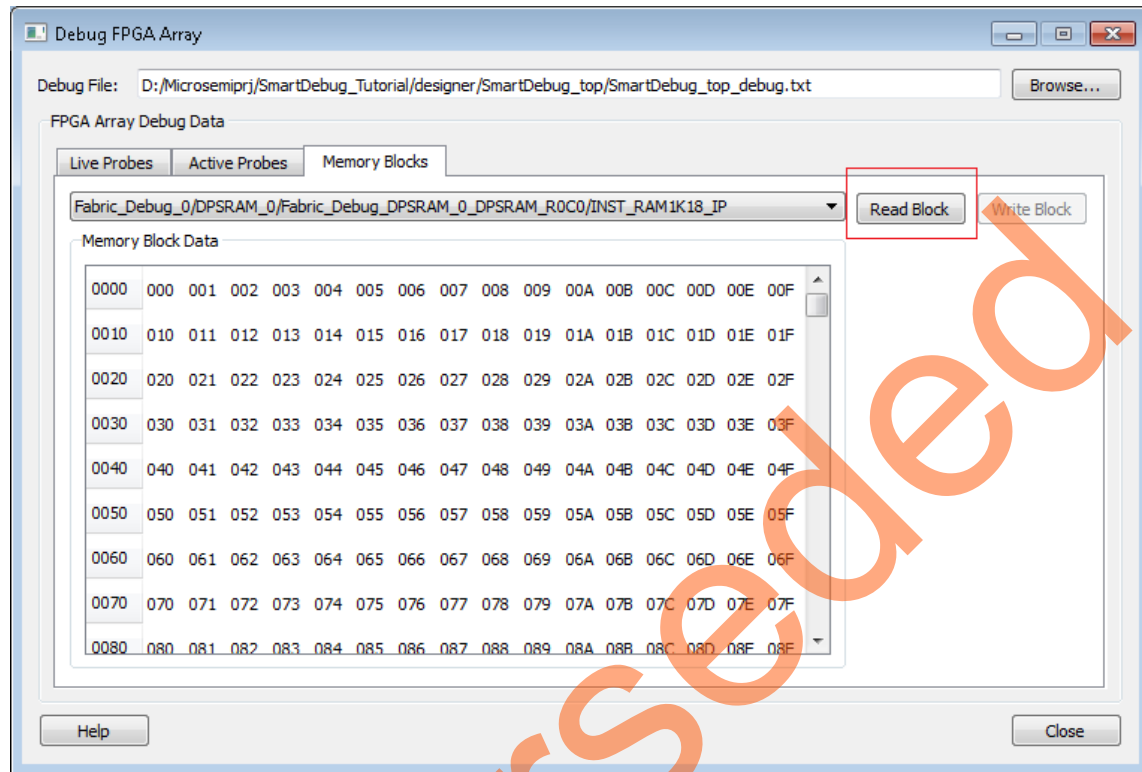

Figure 2-16 • DPSRAM_0 Contents
The contents of the DPSRAM_0 will be displayed, as shown in Figure 2-16. See the counting pattern that is loaded into the RAM.
1. Read the memory content, as shown in Figure 2-16